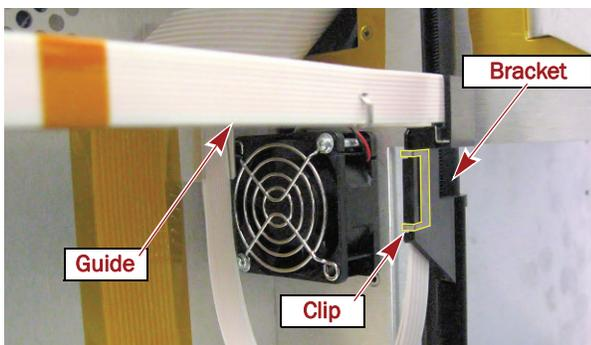

Figure 11. Remove Clip Holding Flex Cable
- a. Remove and retain the **clip** (Figure 11) holding the flex cable to the Z-Axis cable bracket.